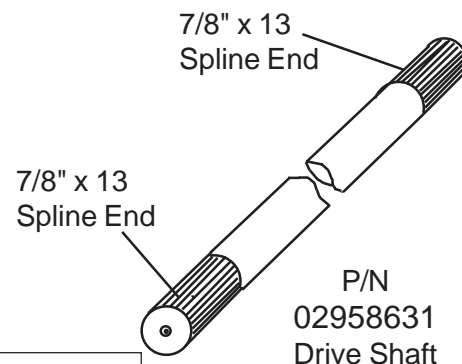

Figure 5
7. Frame Rail Front Mounting Bolts. Install the front frame rail mounting bolts (See Figure 5). The front sub-frame bolts will bolt to the front bolster behind the tank. There are 4 2" log spacers that are installed between the frame and bolster. Do not tighten the bolts until all the bolts are installed in frame rail. Leave floor jack and/or stands under frame rail until completely mounted (See Figure 5).
9. Tighten Front Frame Rail Bolts. After all bolts are installed into the frame rail they can be tightened. Make certain when tightening that none of the bolts are in a bind when tightening frame to bottom or front of tractor, DO NOT force the frame rail up if it will not go up smoothly (See Figure 5).
6. Install Pump Drive Shaft (P/N 02958631). Coat the pump Drive Shaft splined end with a anti-seize compound (See Figure 6). Insert the drive shaft under the radiator and into the splined pulley adapter. NOTE: Some tractors may have rubber under radiator, if this rubber touches the driveshaft it will have to be trimmed to clear. The rubber under the radiator can be trimmed with a knife or in extreme case with a hole saw, The driveshaft must clear any objects by a minimum of 1/16" and not allowed to rub. The driveshaft has a 7/8" X 13 spline on both ends and can be installed in either direction (See Figure 5 & 6).